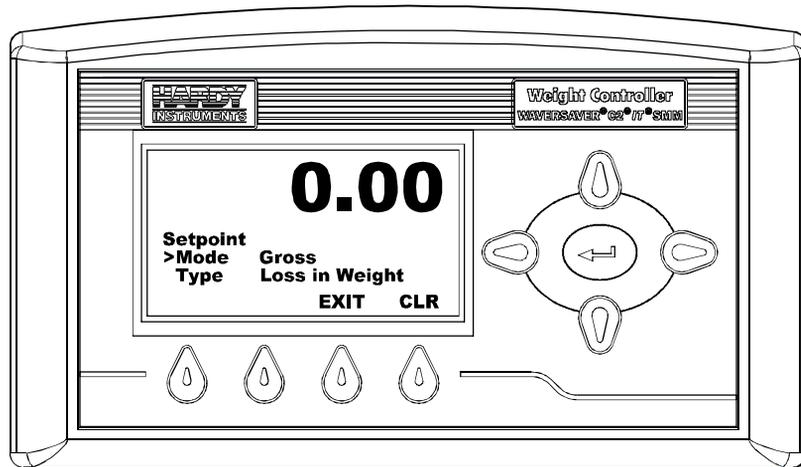

FIG. 365 SET POINT MENU/SELECTING MODE/GROSS
- Step 5. Press the Down Arrow button until the cursor appears in front of Mode. (See Fig. 365)